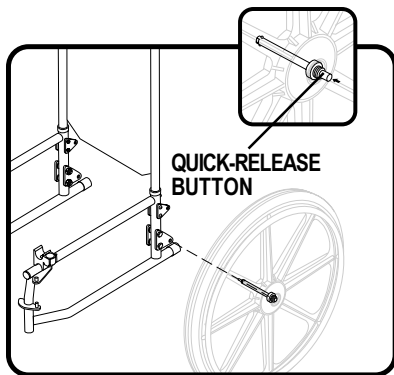

Figure 13. Drive Wheel Quick Release
WARNING! Prevent injury. If you remove the drive wheels, make sure the quick-release buttons snap into place when reinstalling a wheel. See figure 13.
1. Press the quick-release button and pull the drive wheel off. See figure 13.
1. Remove the drive wheel from the frame. See figure 13.